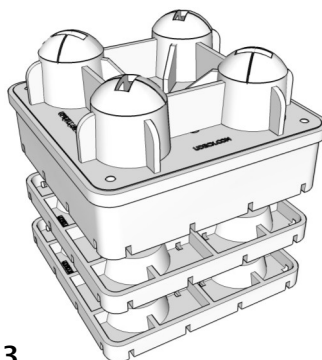

Fig. 33
15. 1" Shims (G) and a 3" Riser (H) can be used in conjunction with each other. **ALWAYS** place the 1" Shim or Shims (G) below the 3" Riser (H). **NEVER** use more than 2 Shims (G) with any Riser (H) (Fig. 33)